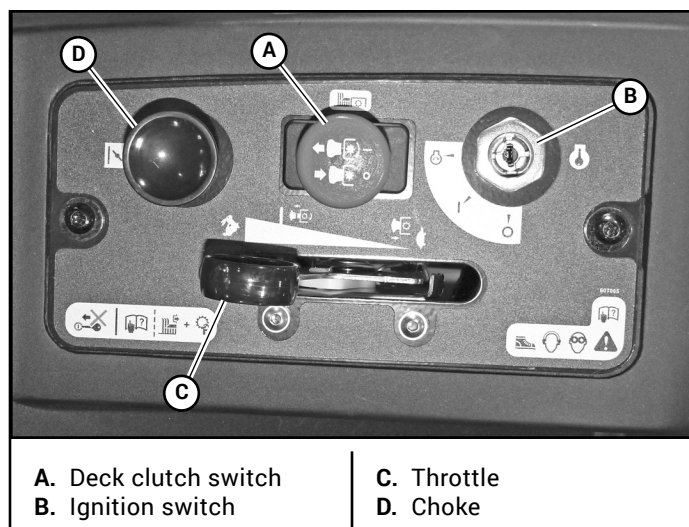

Figure 3-1
- A. **Deck clutch switch (Figure 3-1)** – this switch engages the deck. Pull the switch up to engage and push the switch down to disengage the clutch.
- B. **Ignition switch (Figure 3-1)** – a three position switch: “OFF”, “RUN”, and “START”. With the key inserted, rotate it clockwise to the “START” position; release the key when the engine starts, and the switch will automatically return to the “RUN” position.
- C. **Throttle control (Figure 3-1)** – a cable is linked to the engine throttle for controlling engine speed. Move the lever forward to increase engine rpm, move the lever rearward to decrease engine rpm.
- D. **Choke control (Figure 3-1)** – a cable is linked to manually operate the engine choke. When the lever is in the down position, the choke is in the “OFF” (run) position. When the knob is pulled up, the choke is in the “ON” (start) position. **Do not** operate the machine with the choke in the “ON” (start) position.